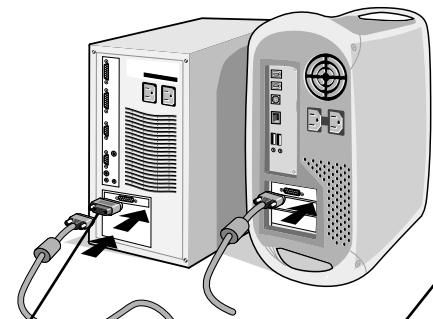

Figure A.3
- For a MAC (PA242W only):** Connect a Macintosh cable adapter (not included) to the computer, then attach the 15-pin mini D-SUB signal cable to the Macintosh cable adapter (**Figure A.3**).